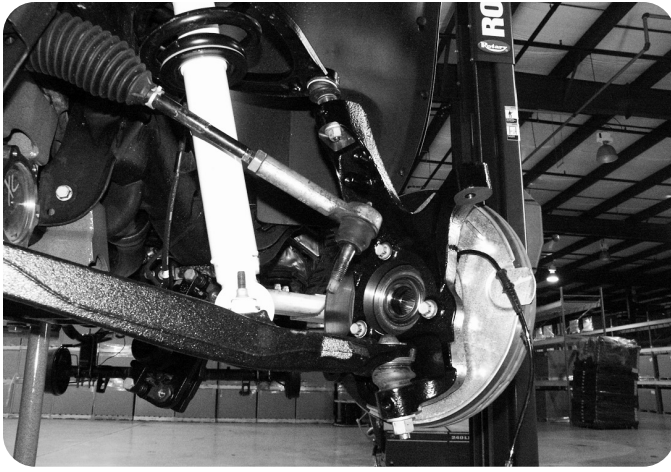

Figure 10
27. Install the assembled knuckle on the lower control arm with the original lower ball joint nut. Attach the knuckle to the upper control arm with the original upper ball joint nut. Torque the upper ball joint nut to 37 ft-lbs and the lower ball joint nut to 74 ft-lbs **Figure 10**.